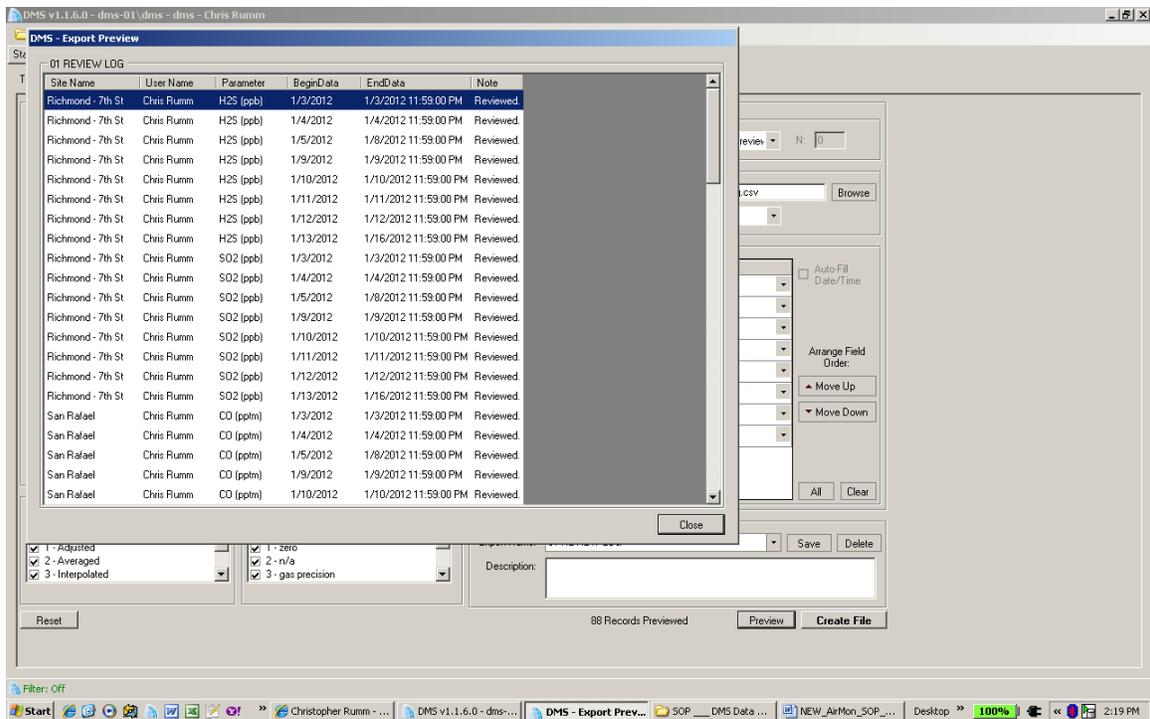

Figure 13: DMS Data Review Log Preview Screen
3. Select **Preview** to view; (see Figure 13: DMS Data Review Log Preview Screen)